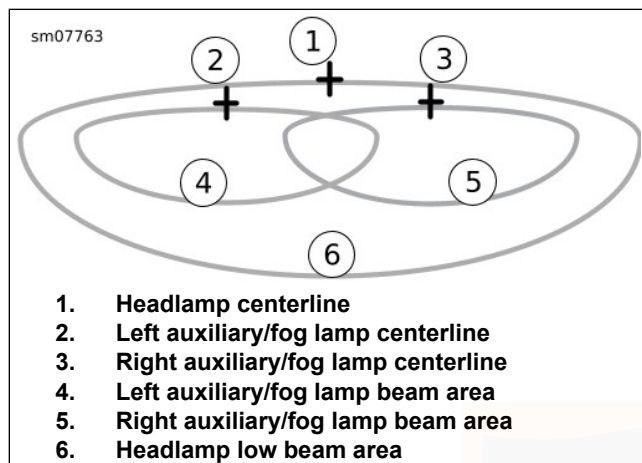

Figure 101. Headlamp Pattern: LED Type with Auxiliary/Fog Lamps
4. See Figure 101. Mark the auxiliary/fog lamp horizontal and vertical centerlines (2, 3) on the wall.
7. Turn on the headlamp low beam and cover both the headlamp and the right auxiliary/fog lamp. Adjust the left auxiliary/fog lamp so the entire high intensity zone (4) is below the centerline as shown in Figure 101.